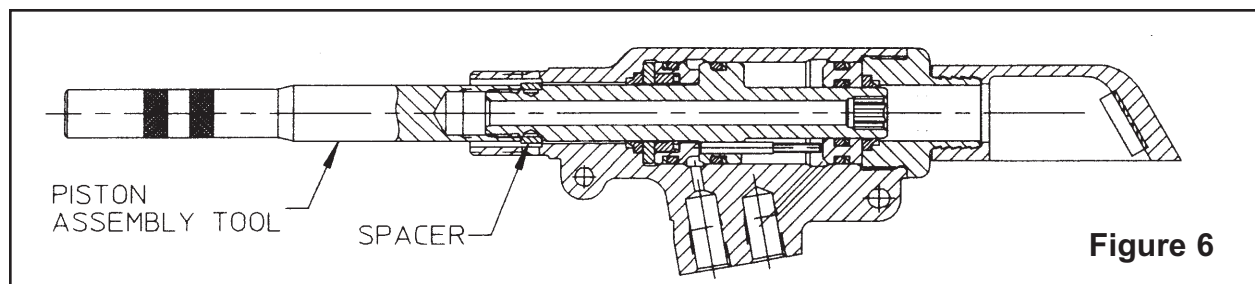

Figure 6
CYLINDER AND PISTON ASSEMBLY (Refer to Figure 6 through 6c.)
1. See *FIGURE 6*. Place spacer over threaded end of piston. Thread piston assembly tool onto piston. If cylinder contains fluid, push piston to rear and drain into container. Discard fluid.
3. Thread piston insertion tool into cylinder- *-FIGURE 6*.